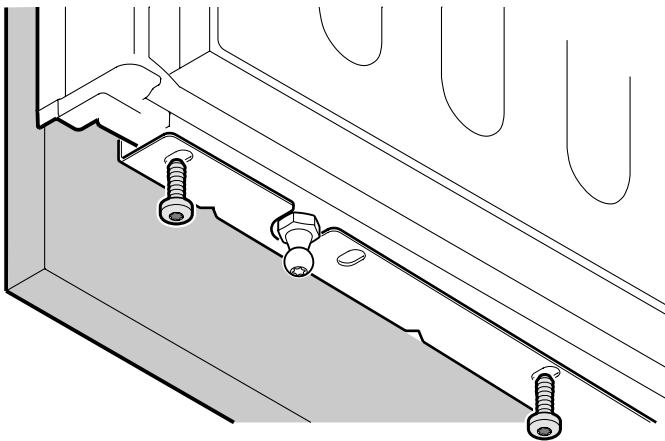

Figure 31
12. Fasten the refrigerator panel using the same screws that held the lower bracket before removal (**Figure 31**).